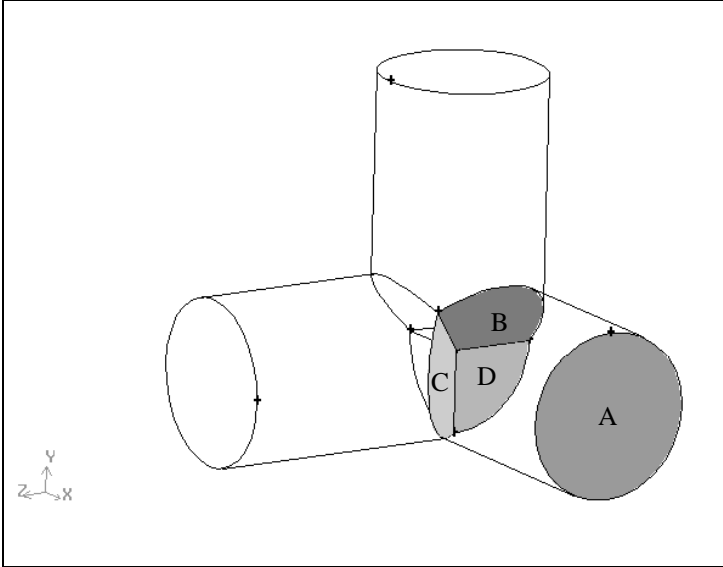

Figure 3-18: Source faces used to mesh one of the pipe volumes using the Cooper meshing scheme
- c) Left-click in the **Sources** list box in the form, and then pick the source faces for the mesh by selecting all the faces of the pipe except the pipe wall. The faces are marked A through D in Figure 3-18.
The four faces to be selected are at opposite ends of the pipe, as shown in Figure 3-18. You can select the faces in the graphics window, or you can use the **Sources** pick list.